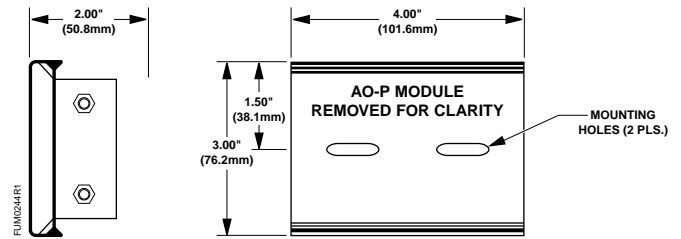

Figure 1. AO-P Module Mounting Holes and Dimensions.
2. Using both of the self-taping screws, electric drill, and the 1/4-inch nut driver bit, mount the snap track onto the mounting surface. See Figure 1.